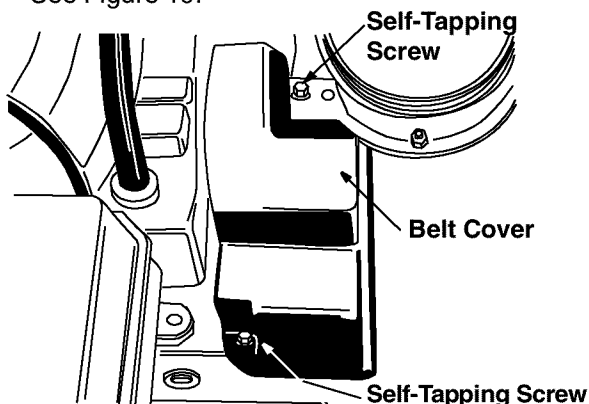

Figure 19
- Remove the plastic belt cover on the front of the engine by removing the two self-tapping screws. See Figure 19.